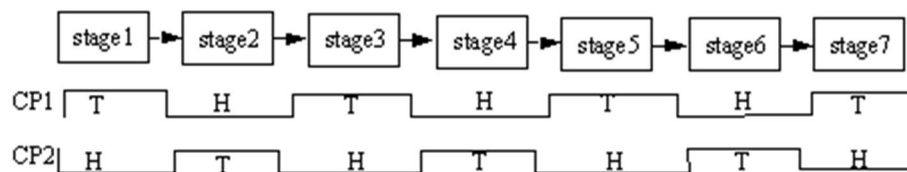

Figure 8. Clock skew between adjacent stages.
- c. To make sure that there is a valid input signal for every pipeline stage, the clock must be skewed between adjacent stages. The tracking phase of every pipeline stage has to be overlapped by the holding phase of the previous pipeline stage. Connect the clocks **CP1** and **CP2** according to Figure 8.